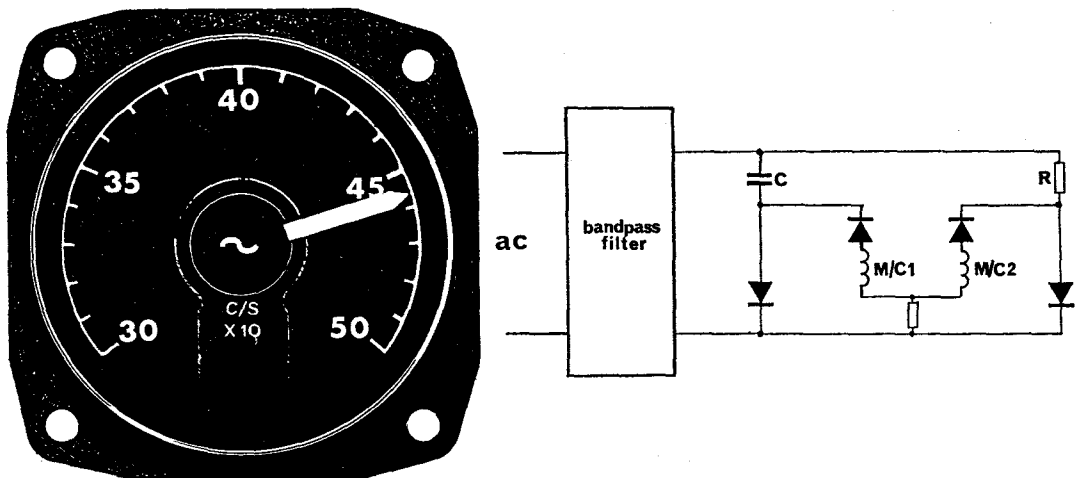

Fig. 3. Frequency meter type S109
12. **Frequency meter type S109.** This meter relies on variation of capacitor reactance with frequency (see figure 3) and is used to monitor the output frequency of aircraft a.c. supplies at 400Hz. The accuracy of measurement is about 1% and as the nominal frequency is usually 380–420Hz ($400\text{Hz} \pm 5\%$) the output frequency of inverters can be adjusted to 400Hz using the meter. A preset calibration control is incorporated to correct the meter reading but this should only be adjusted as authorized when a source of 400Hz accurate to 1 in 10^3 or better is available. The meter movement is a ratiometer whose two coils are fed through rectifiers to obtain the required d.c. The current through the deflecting coil is controlled by a capacitor and that through the control coil by a resistor. As the frequency increases, the capacitive reactance falls and a greater current will flow through the deflecting coil thus giving a higher meter reading. When the supply is removed the needle will take up any position on the scale; some models are however fitted with a *very low torque* spring so that the pointer is pulled off-scale behind a blanking flag when the supply is switched off. Many of these meters are fitted with a bandpass filter in the input leads to prevent false high readings being produced by harmonics of the supply frequency.